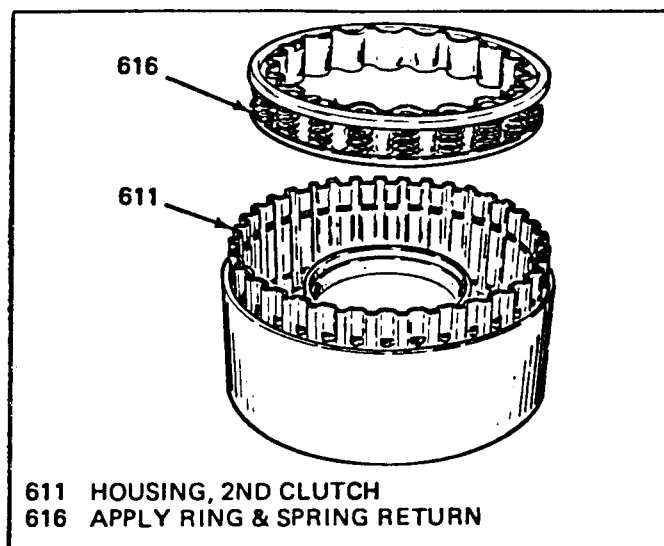

Figure 79
3. Install apply ring and return spring assembly with the inside lip up, as shown in Figure 79.
9. Install support ring (691) on top of the snap ring and stake in place.